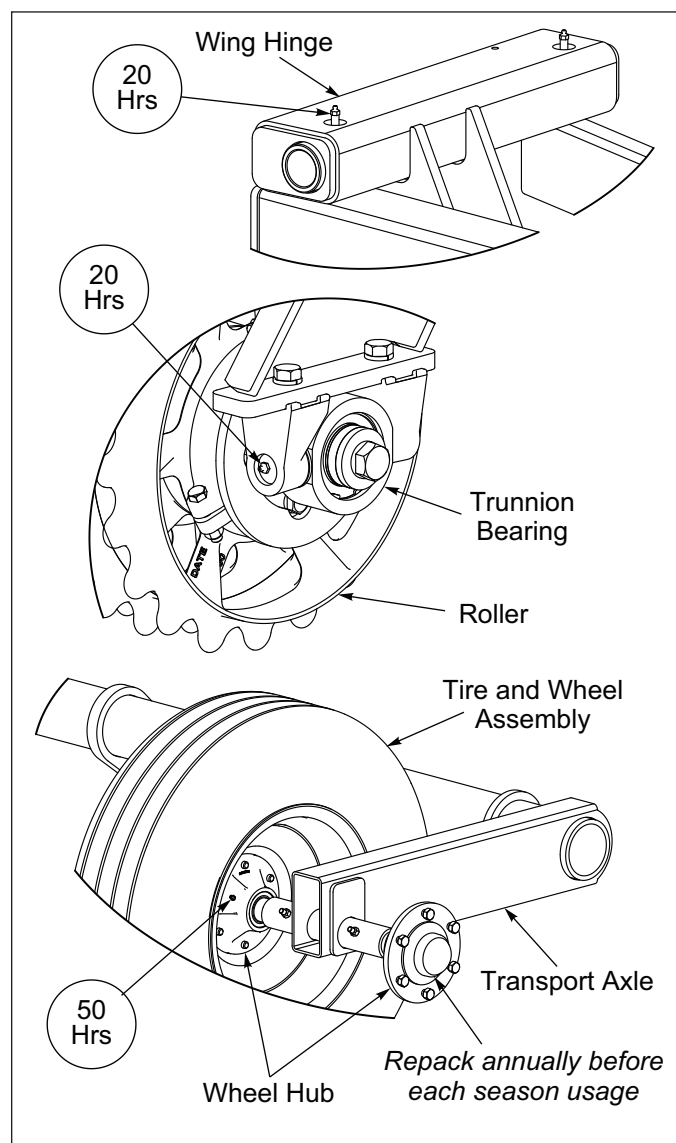

Figure 4-2: Lubrication Intervals
- Lubricate trunnion bearings and hinge pins with quality grease per recommended lubrication frequency intervals indicated or if machine is not used for an extended period. Greasable components are the same on each side. **See Figure 4-2**.